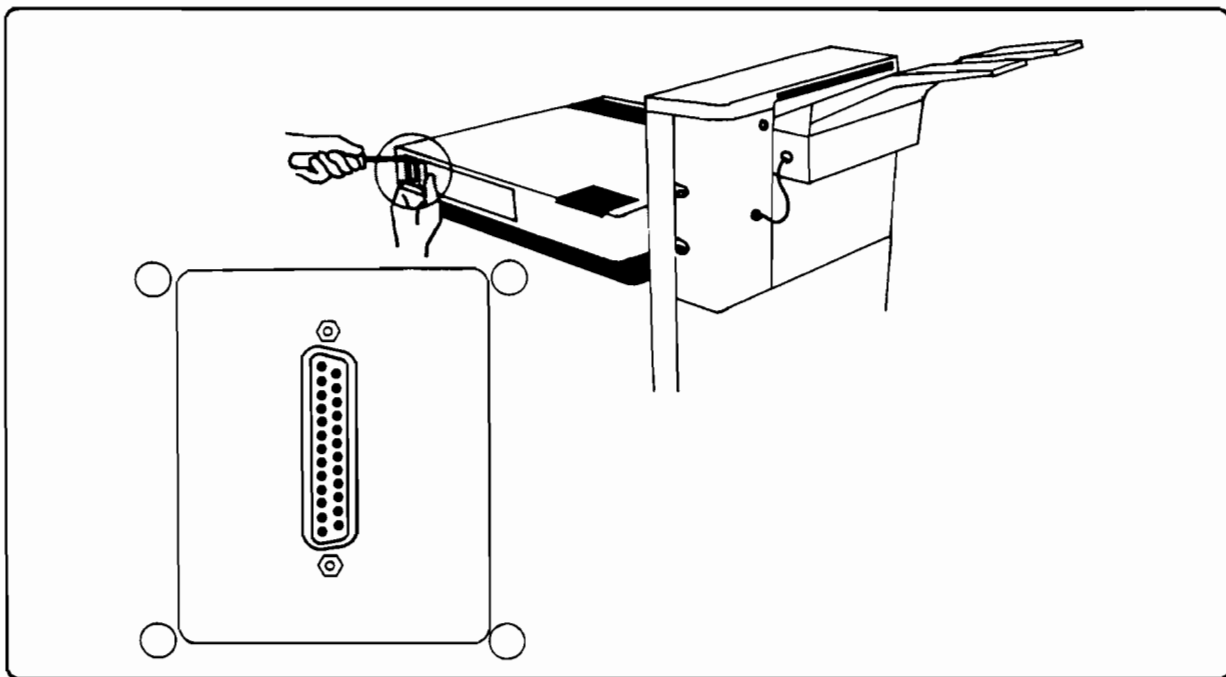

Figure 6-20. I/O Connector Plate
10. Remove the four screws (#1 Phillips) holding the I/O connector bracket (Figure 6-20).